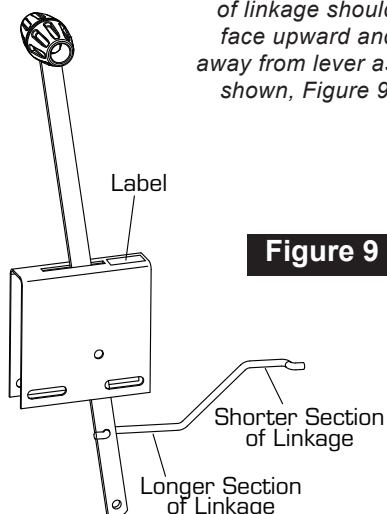

Figure 9
12. Slide Control Lever into U-shaped bracket as shown, Figure 9. The label on the U-shaped bracket faces the hopper.
NOTE: Orientation of on-off label on U-shaped bracket. The shorter section of linkage should face upward and away from lever as shown, Figure 9.